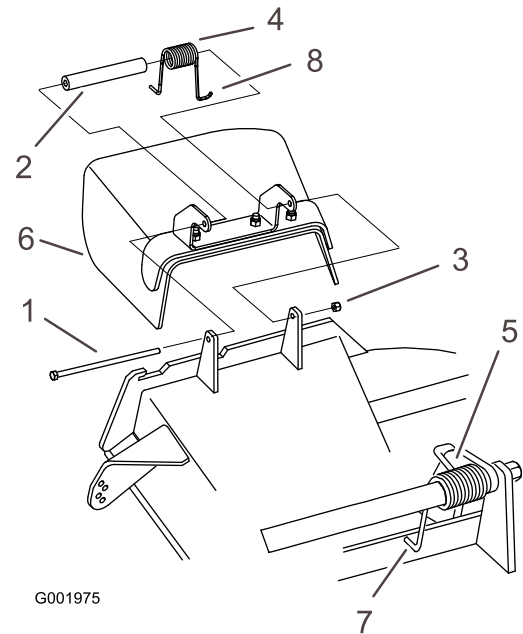

Figure 75
1. Remove the locknut, bolt, spring, and spacer holding the deflector to the pivot brackets (Figure 75).
Note: Make sure one **J** end of the spring is installed behind the deck edge before installing the bolt as shown in Figure 75.
4. Install the bolt and nut. Place one **J**-hook end of the spring around the grass deflector (Figure 75).